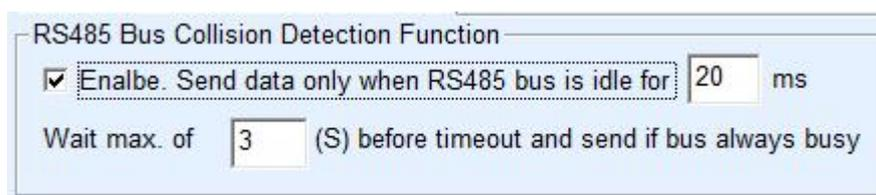

Figure 42 RS485 conflict free time
- 1) Figure 42 shows the "RS485 bus anti-collision time", which can be set as twice of the "packet interval" in the lower right corner of the parameter configuration interface, but the minimum value should not be less than 20.
At this point, it is important to note that the two checkmarks shown in figure 42 as "RS485 bus anti-collision time" and figure 41 as "RS485 instruction reply timeout time" need to be removed. Otherwise, the above forwarding function cannot be realized.